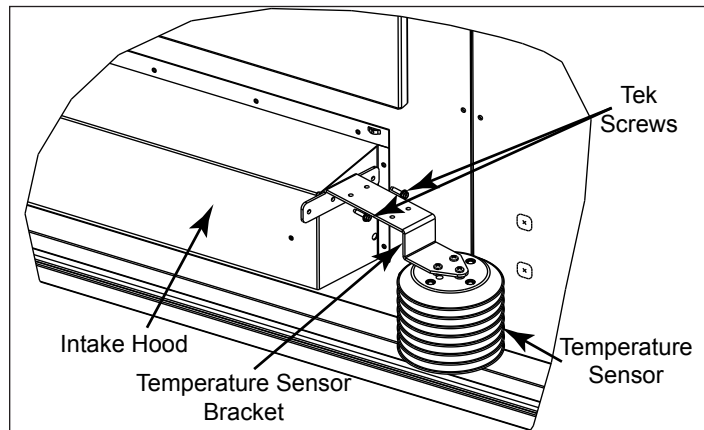

Figure 22: Photocell Installation
1. Locate A intake hood along the bottom row of the display and just to the left of the display center label. Refer to **Figure 22**.